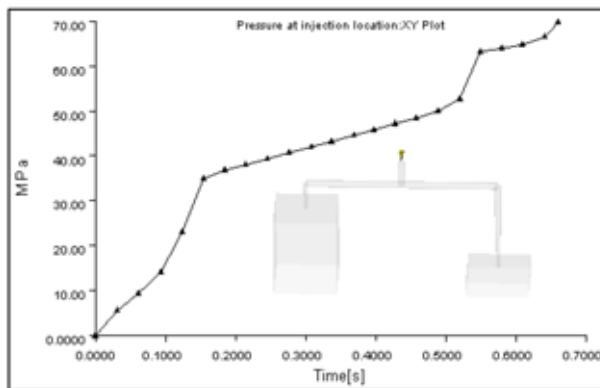

Figure 122: Pressure XY graph at the injection location
- The pressure spike at about 0.5 seconds corresponds to the lid filling and the box has yet to fill out. See Figure 122.